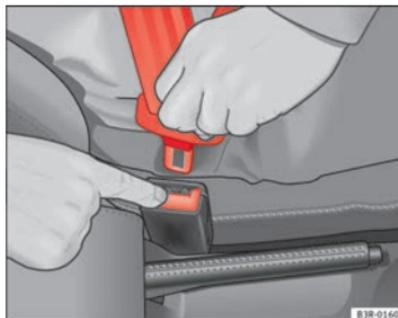

Fig. 16 Remove latch plate from buckle
- Press the red button on the belt buckle ⇒ Fig. 16. The latch plate is released and springs out ⇒ .